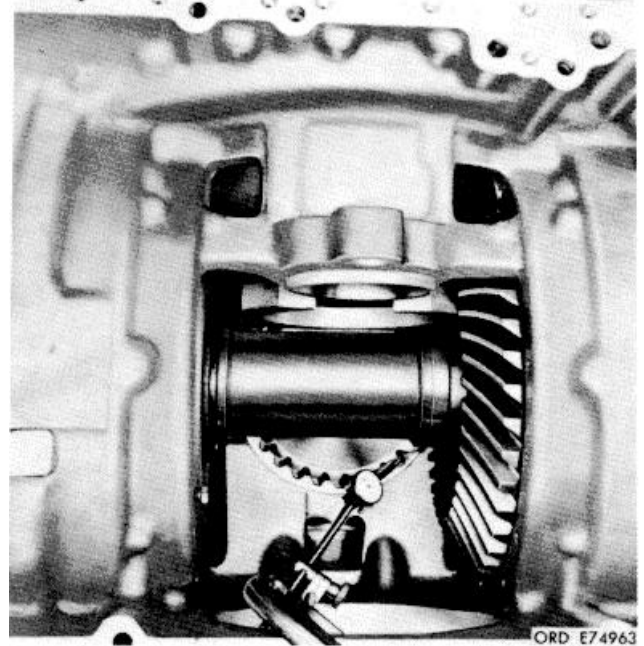

Figure 8-8. Nominal shims for brake coolant pump gear
a. Measure and record width J (fig. 8-8), of the pump drive gear bearing.
etched on the gear. Backlash may be adjusted by adding or removing shims from shim pack V fig. 8-8).
b. Measure and record distance K (fig. 8-8), From the bottom of the bearing bore in the pump cody, to upper surface of the pump cover (pump assembled).
c. Calculate shim pack V (fig. 8-8) by substituting dimensions for DD, J, K and L in the formula $V = DD - K - J - L$.
d. Select the combination of shims 2530-595-6052, 5310-316-7666 and 5310-595-6051 which most nearly equal V. Install the shims and gear (fig. 8-8).